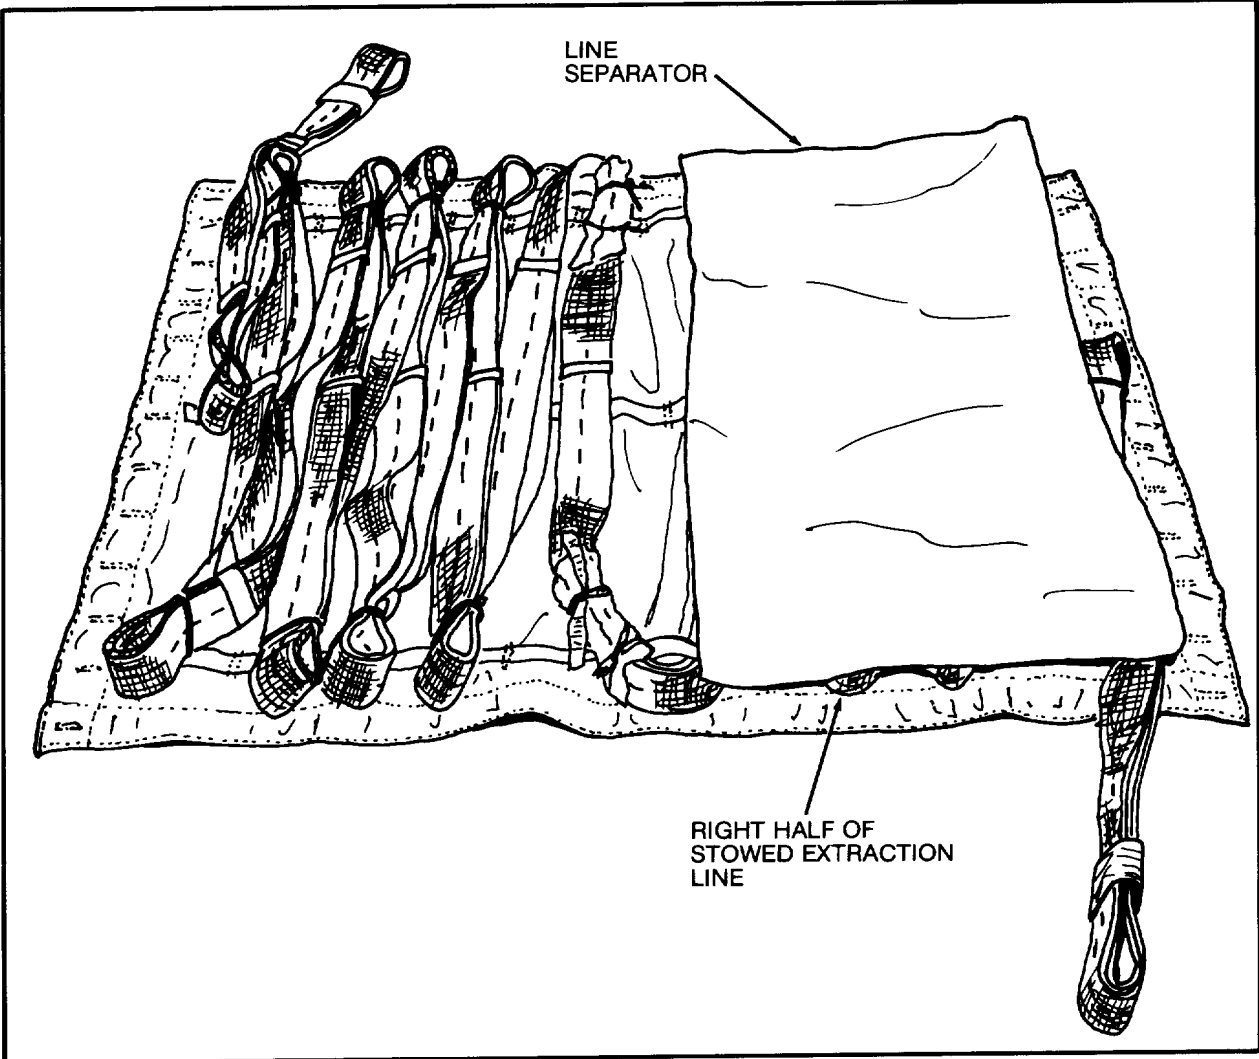

Figure 4. Line Separator Placed on Top of the Right Half of Stowed Extraction Line.
- a. Cut 16 x 36-inch piece of Kraft paper and use as line separator. Place line separator on top of right half of stowed extraction line (figure 4).